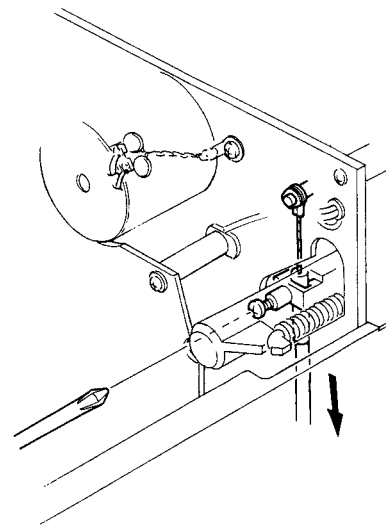

Fig. 4.22
- (2) With pushing the Eject Arm by hand, loosen the screw and then pull the Eject Wire in the direction of the arrow until it stops as shown in Fig. 4.22.
- (3) Tighten the screw, then apply a quantity of lock tight paint.